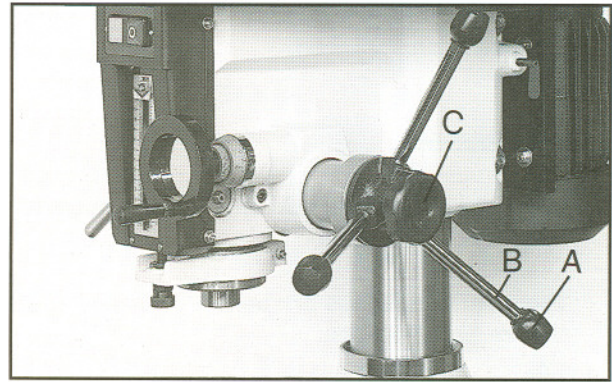

Fig. 1
1. Screw plastic knob (A, Fig. 1) onto handle shaft (B, Fig. 1). Screw handle shaft into downfeed hub (C, Fig. 1) and tighten. Flat spot on shaft accommodates a combination or adjustable wrench. **Note:** Handle shafts are already installed into hub on JMD-18PFN.